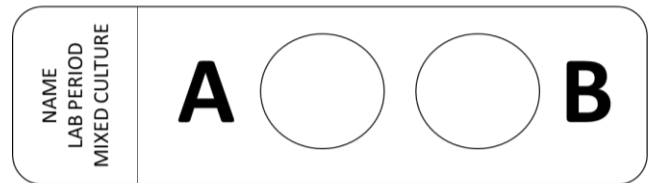

Figure 8.2: A properly labeled slide.
- ☐ Using a wax pencil, label your slide as shown in Figure 8.2. *Draw two circles on the bottom of the slide, about 15mm apart from your staining zones. They must be close together, but not touching, in order to accurately stain and decolorize. Be sure to write in your lab notebook which zone, A or B, corresponds to the which bacterial colony. For example, Zone A: purple colony, Zone B: yellow colony.*